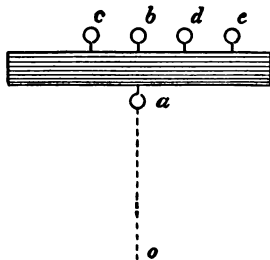

FIG. 16
89. Fasten screw eyes into a block of wood, as in Fig. 16, making  $c$  and  $d$  equally far from  $b$ , and  $e$  twice as far. Hook